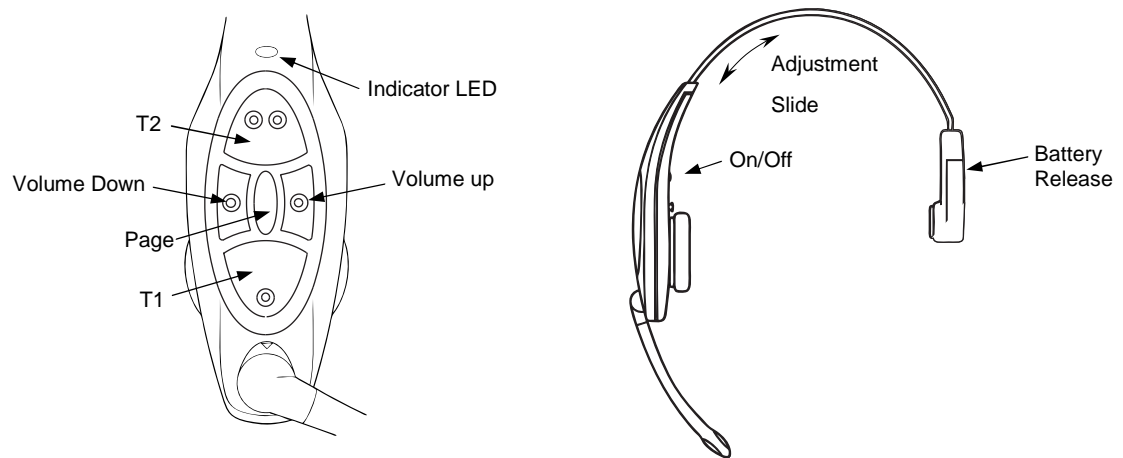

Figure 2
2. Align Charging Contact Block on Control Pod into the Charging Contact Block Receptacle of the Headset Carrier. Once the Charging Contact Block is set into the Receptacle it will act as hinge or pivot point. See figures 2 and 3 below.
Figure 2: Drawing showing back of Control Pod (showing FCC ID label) and outside of carrier, with arrows pointing to charging contact block and charging contact block receptacle.